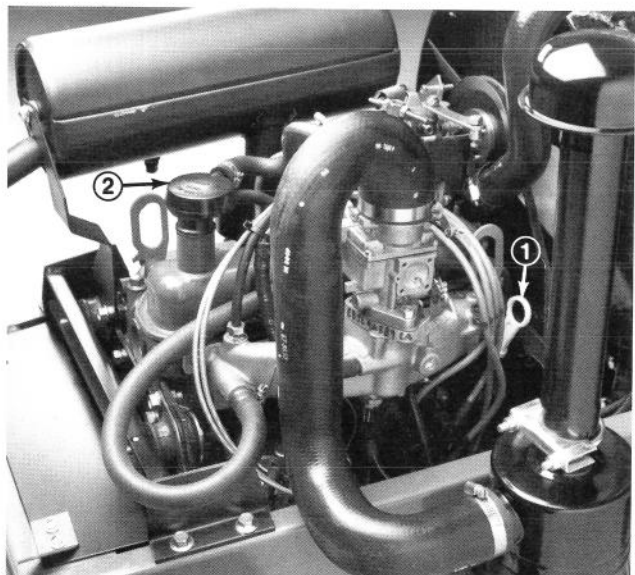

Figure 17
3. Remove dipstick and wipe it with a clean rag. Push dipstick down into the tube and ensure it is seated fully. Pull dipstick out of the tube and check level of oil. If oil level is low, remove filler cap (Fig. 17) and add enough oil to raise level to top of flat at end of dipstick. DO NOT OVERFILL.